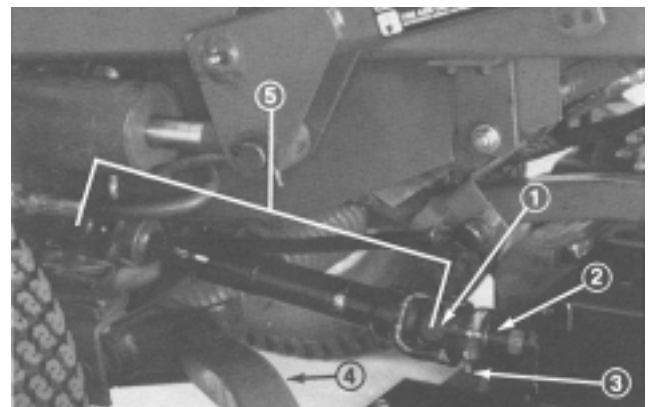

Figure 26
3. Drive the roll pin out of the yoke and input shaft of the gear box (Fig. 26). Also, loosen the capscrews and locknuts. Slide the yoke off of the input shaft. If the traction unit will be used without the cutting unit, drive the roll pin out of the yoke at the PTO pivot shaft and remove the entire universal shaft from the traction unit.
5. Have another person push down on the right push arm while you remove the capscrews, flat washers, lock washers, and nuts securing the ball joint mount to the castor arm on the cutting unit (Fig. 26). Now the other person can carefully allow the push arm to move upward, which will gradually release the 100 lb. (445 N) of spring load.